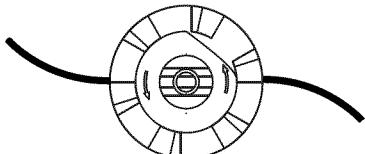

Fig. 20
- Remove any old line from the inner reel or obstructions from the outer spool. (Fig. 20)